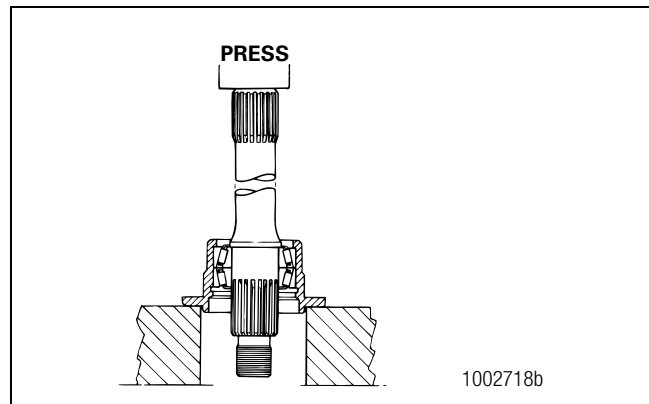

Figure 3.14
- A. Place the thru-shaft and the output bearing cage in a press. Figure 3.14.